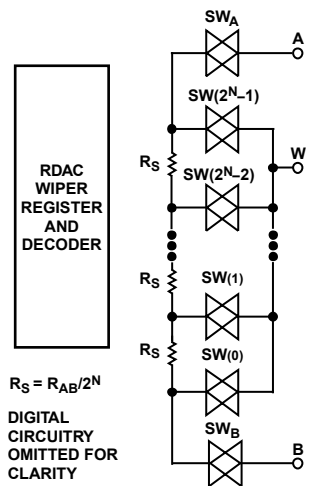

Figure 43. Equivalent RDAC Structure
The patent-pending RDAC contains multiple strings of equal resistor segments, with an array of analog switches that act as the wiper connection. The number of positions is the resolution of the device. The AD5233 has 64 connection points, allowing it to provide better than 1.5% set ability resolution. Figure 43 shows an equivalent structure of the connections between the three terminals of the RDAC. The SW_A and SW_B are always on, while the switches SW(0) to SW(2^N-1) are on, one at a time, depending on the resistance position decoded from the data bits. Because the switch is not ideal, there is a 15 Ω wiper resistance, R_w. Wiper resistance is a function of supply voltage and temperature. The lower the supply voltage or the higher the temperature, the higher the resulting wiper resistance. Users should be aware of the wiper resistance dynamics, if accurate prediction of the output resistance is needed.
The 6-bit data-word in the RDAC latch is decoded to select one of the 64 possible settings. The following discussion describes the calculation of resistance R_{WB} at different codes of a 10 kΩ part. For V_{DD} = 5 V, the wiper's first connection starts at Terminal B for data 0x00. R_{WB}(0) is 15 Ω because of the wiper resistance and because it is independent of the nominal resistance. The second connection is the first tap point, where R_{WB}(1) becomes 156 Ω + 15 Ω = 171 Ω for data 0x01. The third connection is the next tap point representing R_{WB}(2) = 321 Ω + 15 Ω = 327 Ω for data 0x02 and so on. Each LSB data value increase moves the wiper up the resistor ladder until the last tap point is reached at R_{WB}(63) = 9858 Ω. See Figure 43 for a simplified diagram of the equivalent RDAC circuit. When R_{WB} is used, Terminal A can be left floating or tied to the wiper.